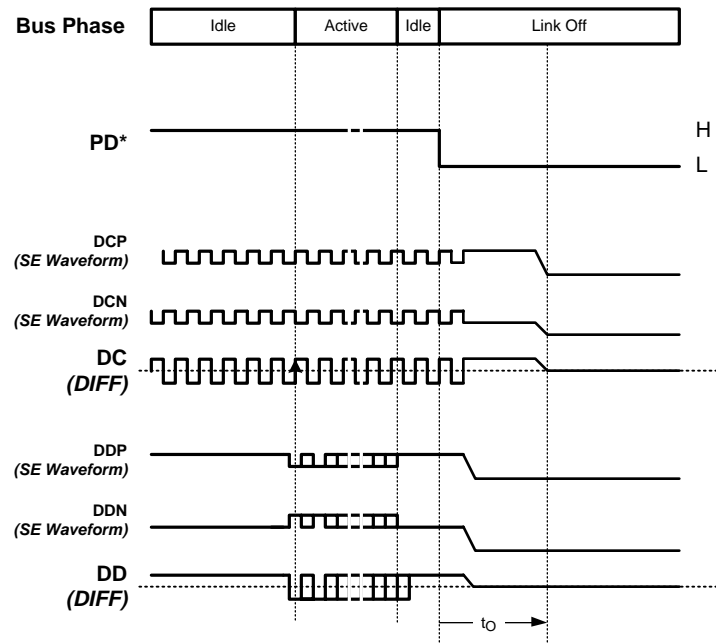

Figure 7. Serial Bus Power Down Timing
(5) Specified functionally by the I_{DDZ} parameter. See also Figure 7.
In the OFF phase, differential transmitters are turned off and the lines are both driven to Ground. Figure 7 shows the transition of the serial bus into the OFF phase. The link may be powered down by asserting Master and Slave PD* pins, the Master PD* pin alone or stopping the clock. To avoid loss of data the clock input should only be asserted after the serial bus has been in the IDLE state for at least 100 DC clock cycles. This also applies to when Master's PD* input is asserted. The 100 DC clock cycles give the Slave enough time to complete any write operations received from the serial bus.